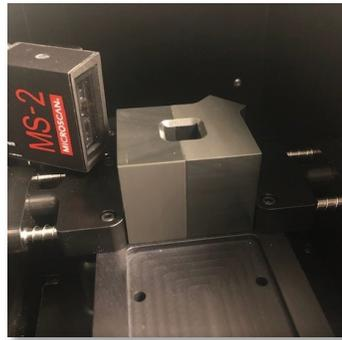

FIGURE 5: P4334 WINDose Dosimeter holder receiver installed in baseplate
7.2.2 Insert the **WINDose dosimeter holder receiver (GEX Part# P4334)** into the baseplate and ensure that it is fully and correctly seated in the baseplate. See Figure 5 below.